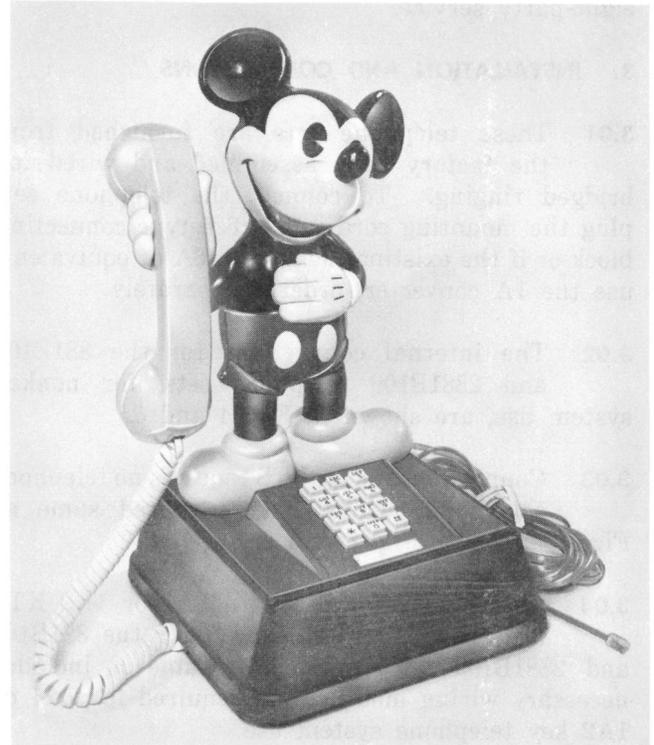

Fig. 1—2881C109 DESIGN LINE Telephone Set
1.01 This section contains identification, installation, and connection information for the 881B109 (MD), 881C109, 2881B109 (MD), and 2881C109 (Fig. 1) DESIGN LINE\* telephone (The Mickey Mouse® Phone\*\*) sets.